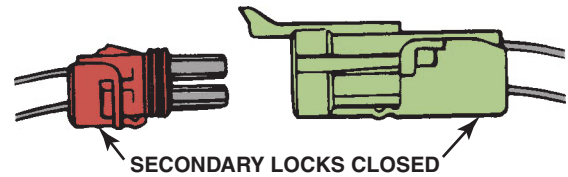

FIGURE 44-15 Separate a connector by opening the lock and pulling the two apart.
- STEP 2** Separate the male and female connector by opening the lock. ● **SEE FIGURE 44-15.**